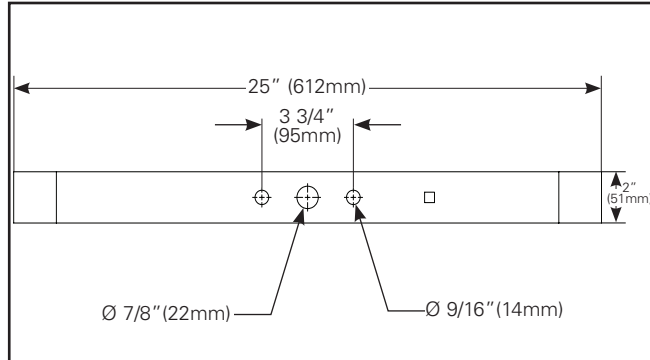

Figure 5.
1. Mount Luminaire to surface using hole pattern provided on the yoke (Figure 5).